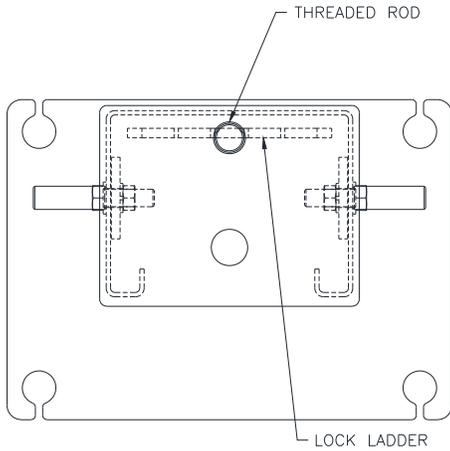

Fig 13 – Locking Ladder Orientation
- 20) Reassembly the lock ladder and top cap to column. Note: the lock ladder is offset from the center of the threaded rod, and orientate per Fig 13.